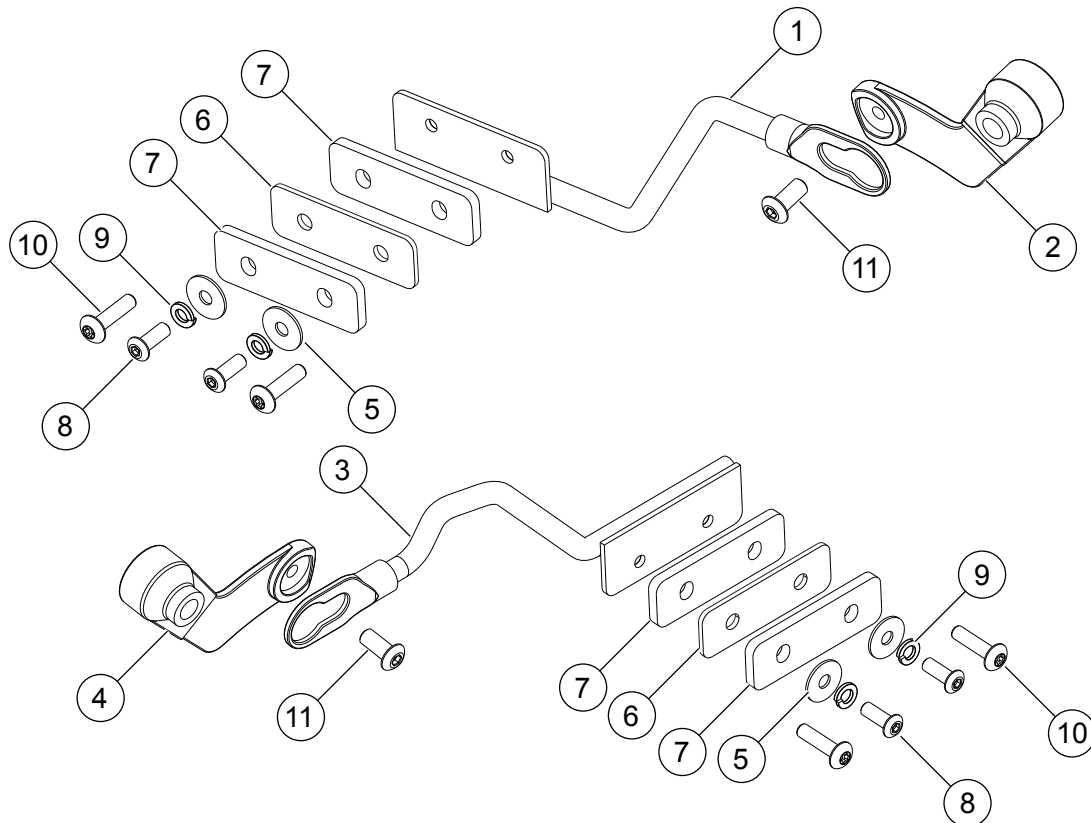

Figure 5. Service Parts: Lower Support Bracket
See Figure 5 and Table 1.
1. See Figure 5. Install the lower support bracket (1 or 3) with the isolator (6) to the saddlebag. **For FXDF, FXDFSE and 2010 FXDWG Models:** Install spacers (7), fender washers (5), lockwashers (9) and screws (10). Do not fully tighten. **For All Other Models:** Fasten with screws (8), fender washers (5) and lockwashers (9). Do not use spacers (7). Do not fully tighten.